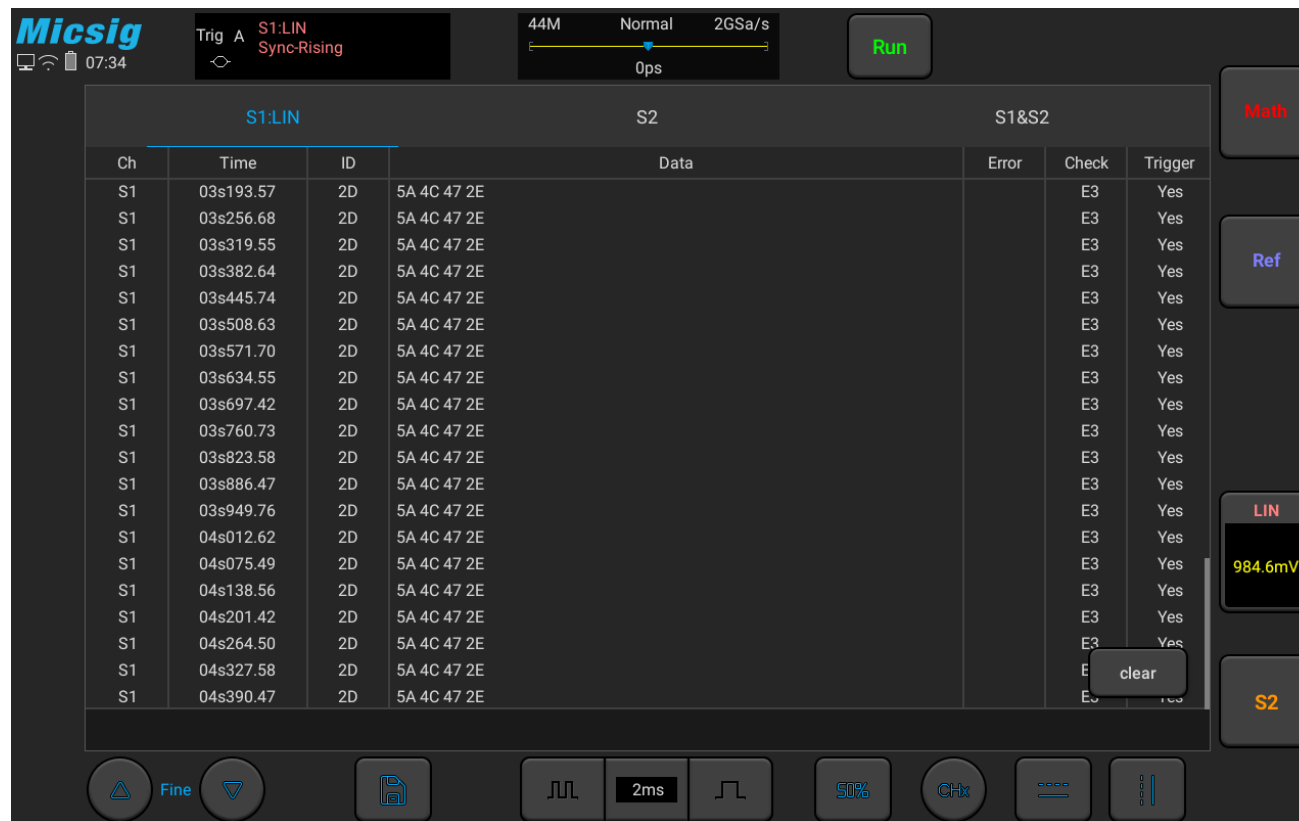

Figure 11-13 LIN Text Interface
**LIN text interface description, as shown in Figure 11-13:**
- (1) “Ch”: bus channel.
- (2) “Time”: Time intervals between the last frames to current frames.
- (3) “ID”: Frame ID value.
- (4) “Data”: Frame data.
- (5) “Parity sum”: Frame parity sum, the sum of parity error displays in red.
- (6) “Trigger”: “Yes” means the frame reaches trigger condition.
- (7) “Clear”: Clear counter data.